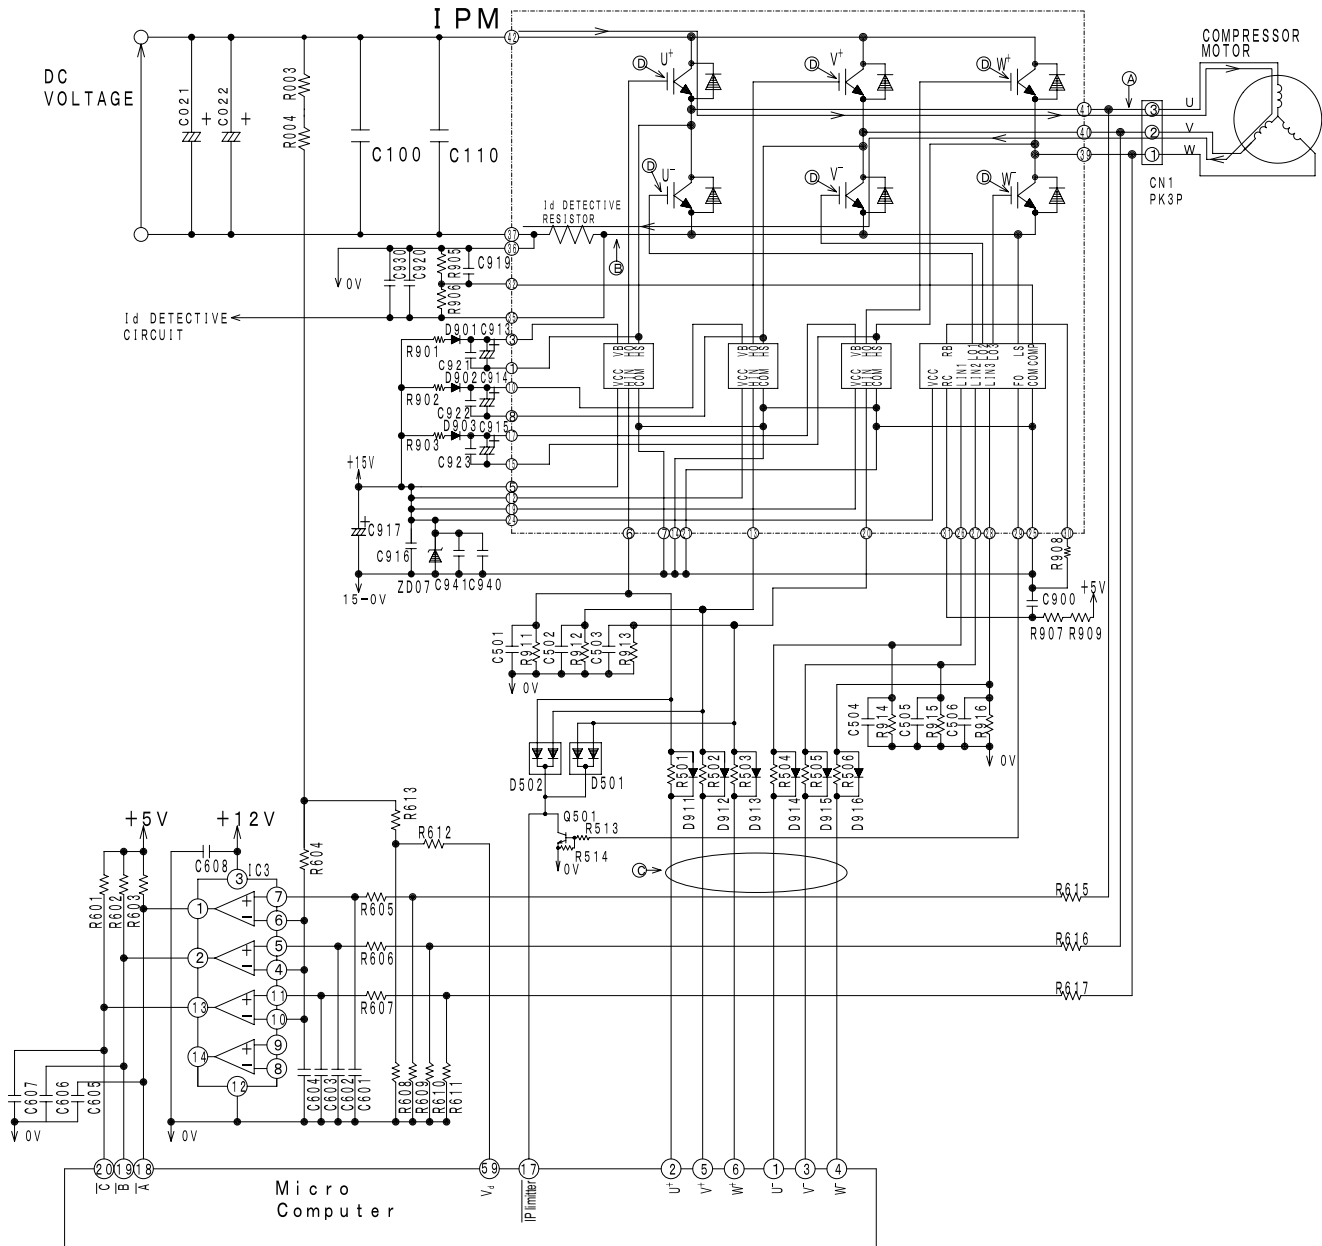
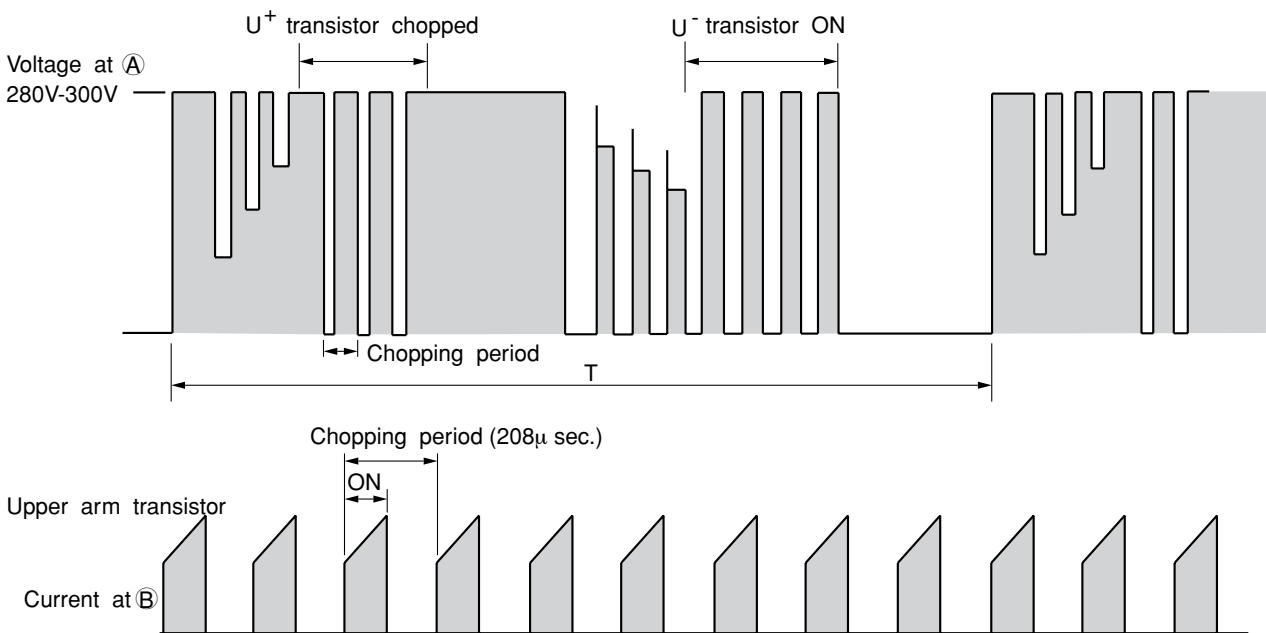

Fig. 4-1 Intelligent power module circuit (U⁺ is ON, V is ON)
Fig. 4-3 Voltage waveform at each point
- Fig.4-1 shows the intelligent power module and its peripheral circuit. The three transistors on the positive e side are called the upper arm, and the three transistors on the negative d side, the lower arm.
At point ⑤: U⁺ is ON, V⁻ is ON (circuit in Fig.4-1)
Fig. 4-3 shows voltage waveform at each point shown in Figs. 4-1 and 4-4. First half of upper arm is chopper, second half is ON, and first half of lower arm is chopper, second half is ON.
- (1) When U⁺ transistor is ON: U⁺ transistor → U coil → V coil → V⁻ transistor → DC current detection resistor → Point ⑤ (Fig. 4-1)
Since current flows at point ② only when U⁺ transistor and V⁻ transistor is ON, the current waveform at point ② becomes intermittent waveform as shown in Fig.4-3. Since current at point ② is approximately proportional to the input current of the air conditioner, input current is controlled by using DC current (I_d) detection resistor.